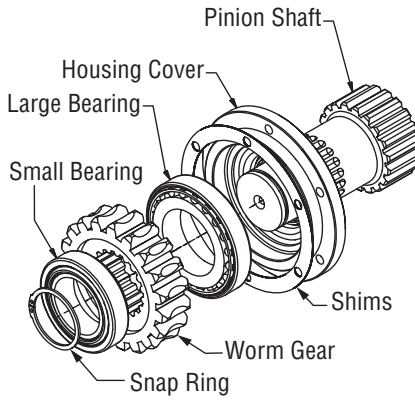

Figure 5-19, Pinion Shaft Assembly
16. Install the pinion shaft assembly and shims (if applicable). (Figure 5-19)